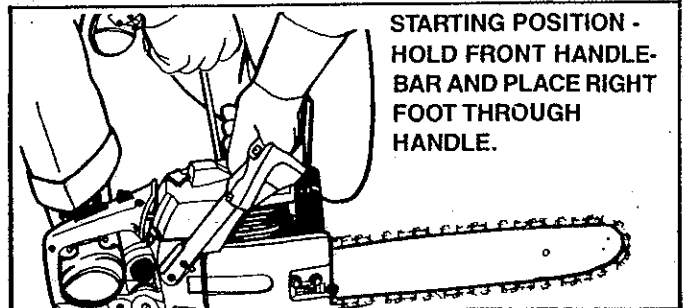

Figure 19
- a. Set saw on flat ground making certain the saw chain free to turn without contacting any object. Figure 19.
- e. Hold the front handlebar with your left hand and place right foot through the rear handle to stabilize saw. Figure 19.